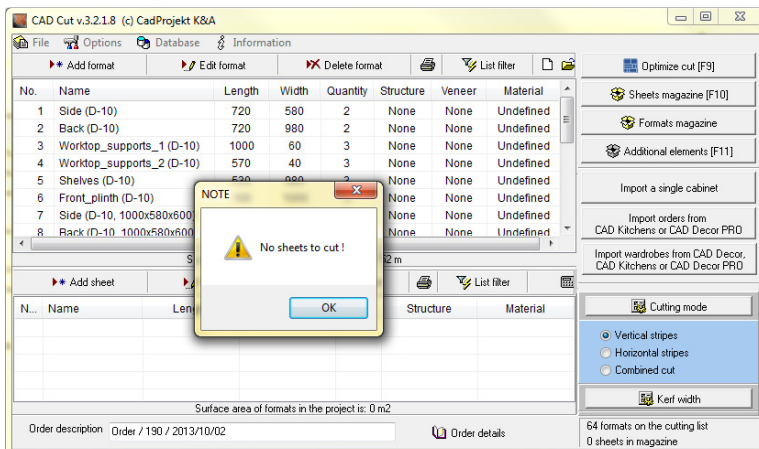

Fig. 108 – formats of cabinets from CAD Kitchens order and a message about missing sheets
- in the main program window you will see a list of formats - the components of the cabinet to be cut (Fig. 108);
- to conduct the optimization of the cut, you must add relevant sheets to the sheet list - otherwise when you click the **'Optimize cut'** button, you will see the message: **"No sheets to cut!"** (Fig. 108). After closing it, a window in which you can add a sheet will automatically open. When you add a sheet, the optimization will automatically follow.